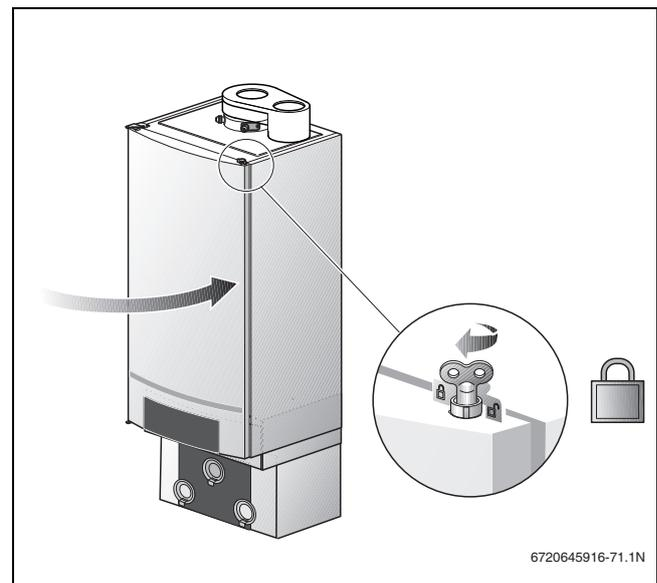

Fig. 74 Closing the boiler door
- ▶ Close the boiler door (\rightarrow fig. 74) and lock the fastener by turning the vent screw through $\frac{1}{4}$ rotation in a clockwise direction.